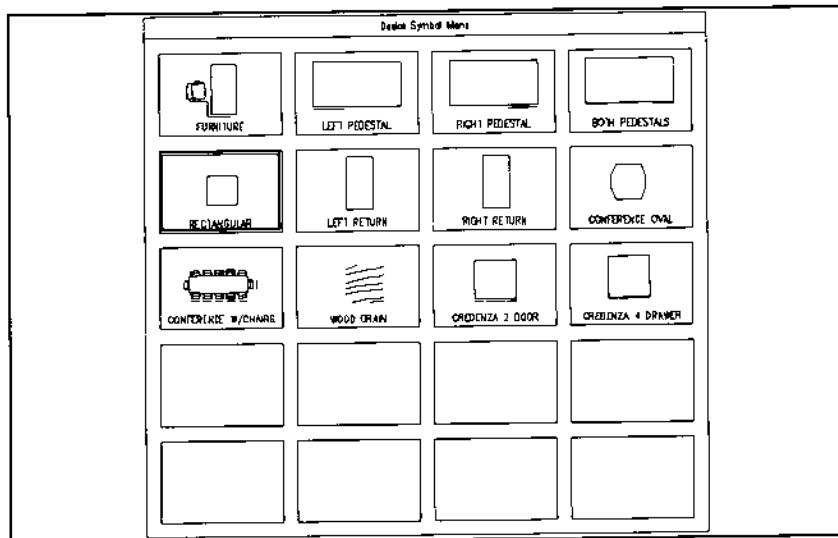

Figure 81.
2. The Desk/Table/Credenza Menu icon opens to display the various symbols, as shown in Figure 81.